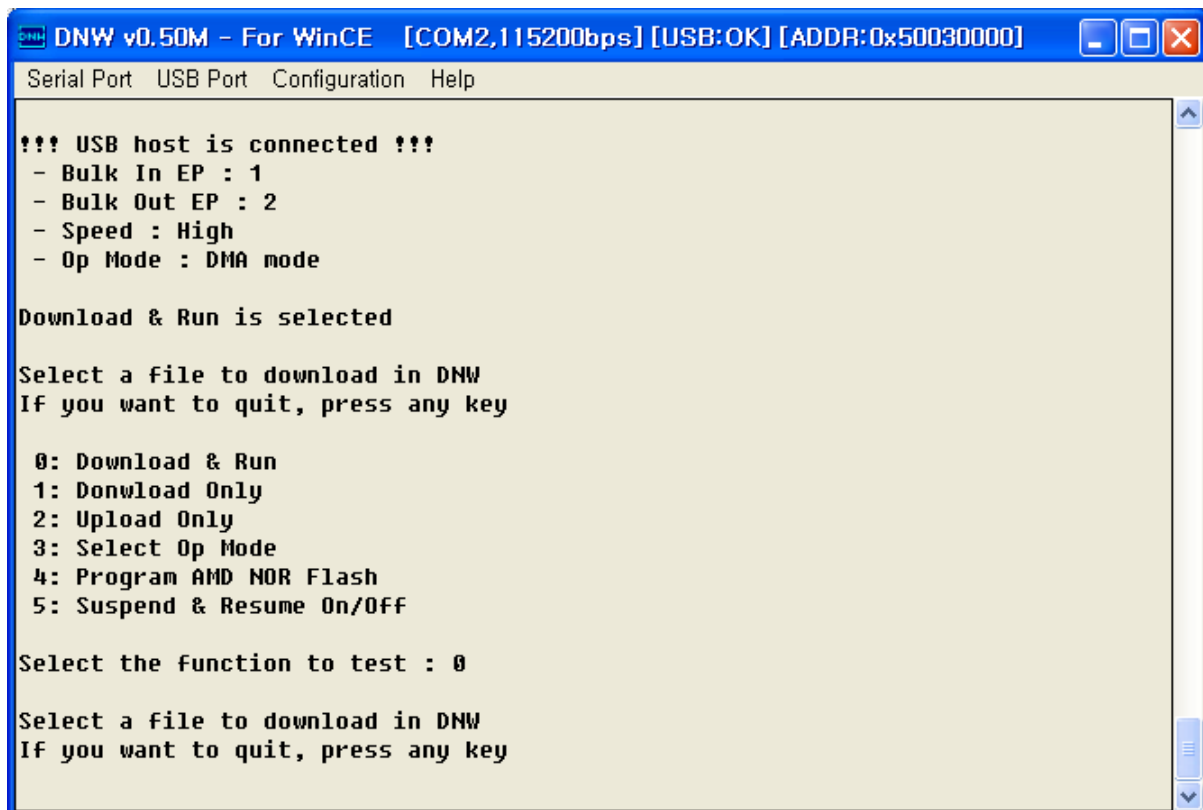

Figure 6-5 Download & Run
8. Enter 0 to download and run the Image on the board. DNW window appears as shown in figure 6-5.